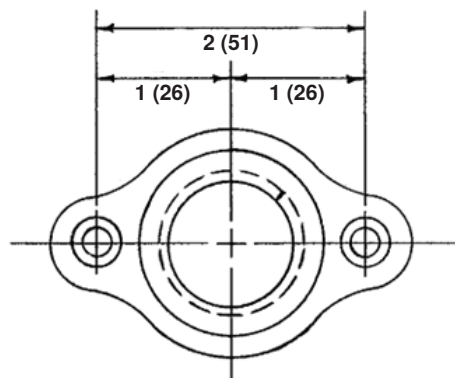

Figure 28. Waste Nut
1. Using waste nut (see Figure 28) as template, drill three holes—one 3/4-inch drain hole and two 1/4-inch fastener holes in furnace cabinet's bottom pan.